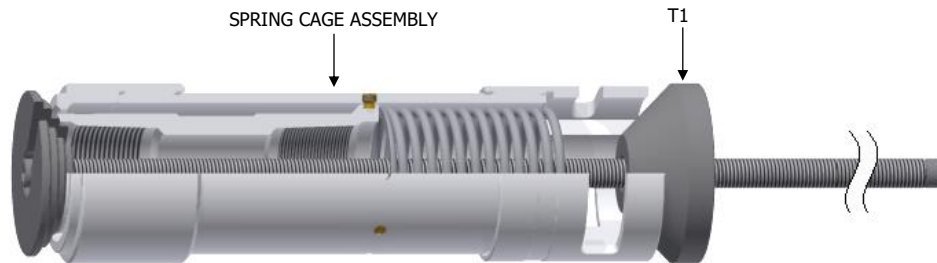

Fig. 2
J-1.18.1) Position assembly tool (T1) hand-tight against top sub (1) and upper slip body (6) of spring cage assembly (Fig. 2).